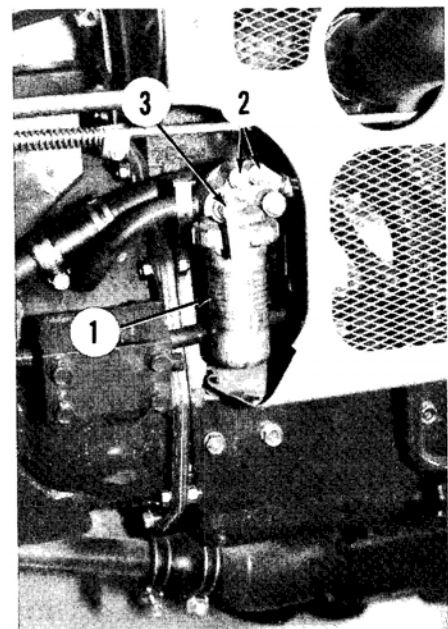
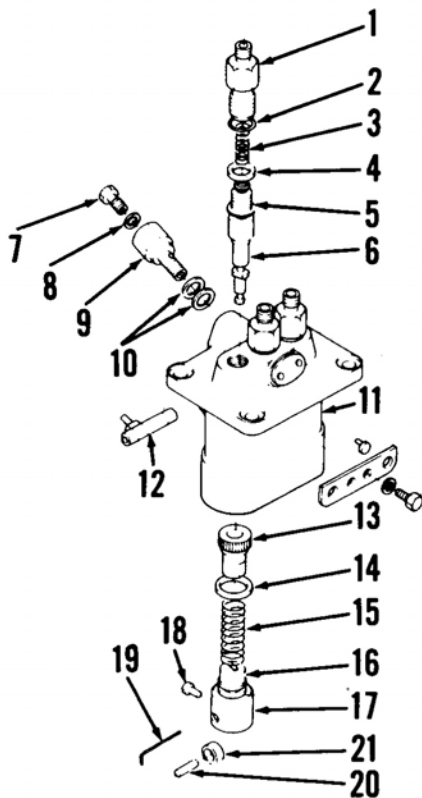

Fig. 25—View showing fuel filter pot (1), bleeding screws (2) and fuel shut-off valve (3).
Fig. 26—Exploded view of fuel injection pump.
Remove filter pot (1—Fig. 25) and drain off any water at least every 100 hours (more often if trouble is suspected). Rinse out inside of pot and filter element with kerosene.
To bleed fuel system, make sure fuel tank has a sufficient amount of fuel, then open fuel shut-off valve (3—Fig. 25). Unscrew bleeding screws (2) two to three turns. Allow fuel to drain from bleed screw until air-free fuel appears, then tighten bleed screws. Open air bleed screw (7—Fig. 26) and place throttle lever in fully closed position. Turn engine over for approximately 10 seconds, then close screw (7) when air bubbles disappear from fuel. Disconnect high pressure fuel lines from injectors. Rotate engine, then reconnect fuel lines when air-free fuel flows from fuel lines.